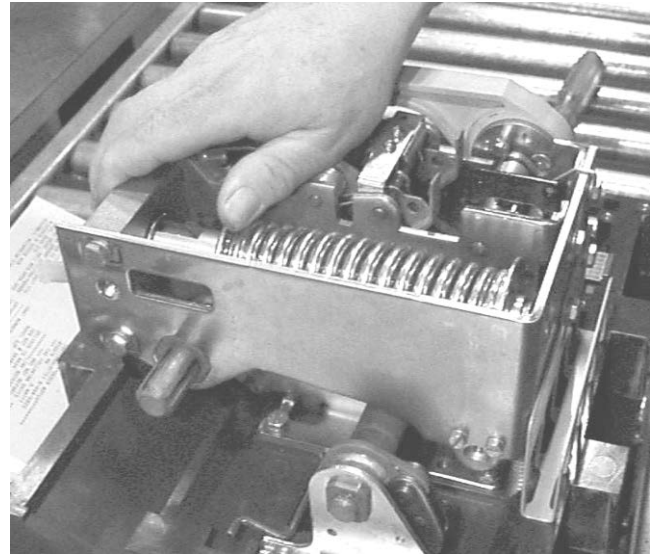

Figure 20: Reinstalling the closing spring.
20. Rotate the trip de-latch lever fully back against the frame, as shown in Figure 20, while pressing down on the cradle to release the closing mechanism. While holding the cradle down, rotate the spring forward against the stop block.